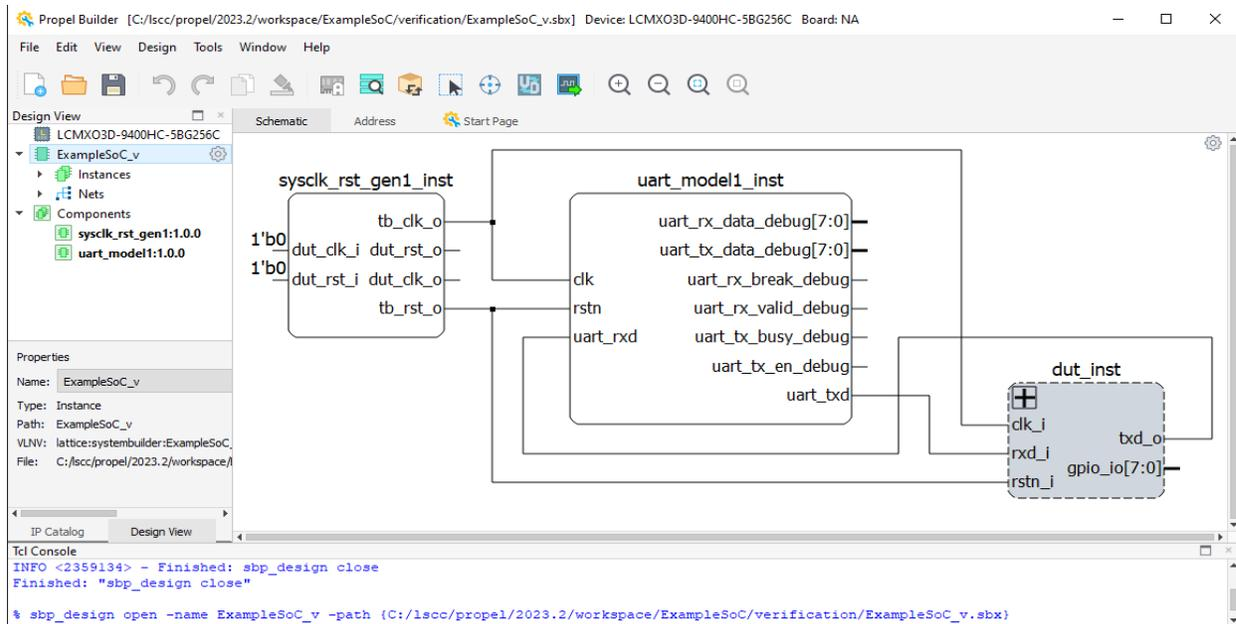

Figure 3.33. SoC Verification Project
2. Click the **Switch** icon on the toolbar to switch between SoC design and SoC verification project (Figure 3.33).
3. After the SoC design is switched to an SoC verification project, click the **Generate** icon to generate the simulation environment for OEM ModelSim. Click the **Launch Simulation** icon (Figure 3.33).